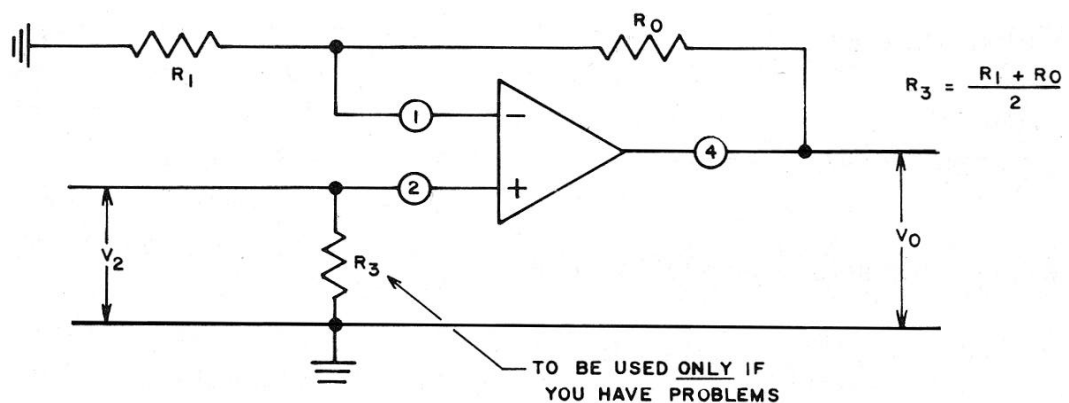

Figure 2-8. Noninverting amplifier circuit.
Having put together an op-amp circuit, seen it work, and observed its gain-bandwidth behavior, we are ready for our next circuit: the *noninverting amplifier* (Figure 2-8). This circuit has several interesting features: first, the gain is given by
Flushed with these victories, we can resume analyzing the noninverting op-amp circuit of Figure 2-8 in the light of what we have learned from studying ideal op-amps. Redrawing Figure 2-8 as Figure 2-14, we put in current arrows and the hypothetical (but useful) voltage V_a between op-amp inputs (1) and (2).